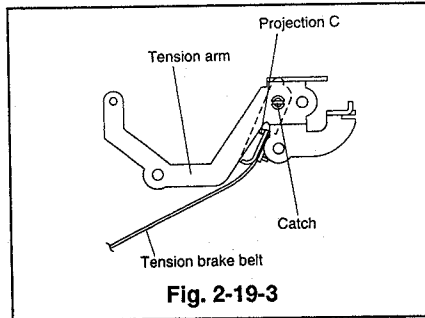
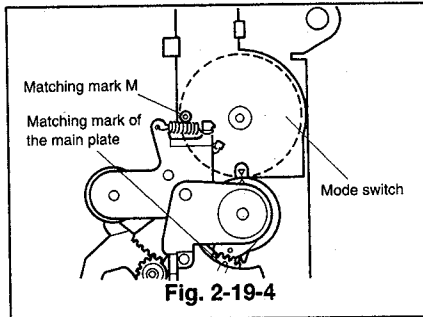
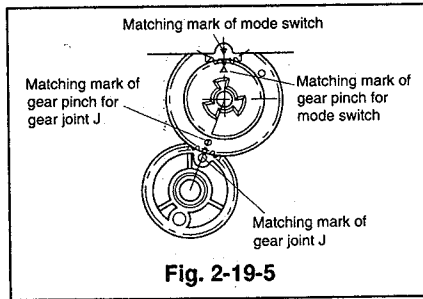
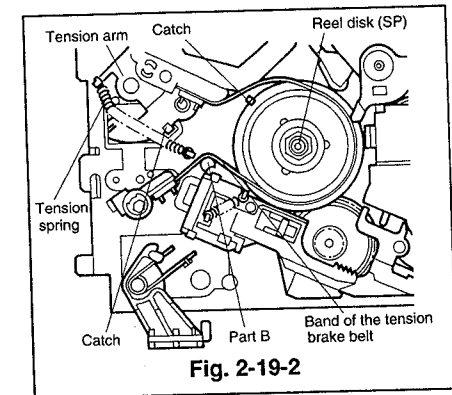

Fig. 2-19-3
Fig. 2-19-4
Fig. 2-19-5
Fig. 2-19-2
- ① Insert the catch in the position of the tension arm as shown in Fig. 2-19-3 to fasten the tension brake belt on the tension arm. (Take care not to let projection C, next to the catch of the tension brake belt touch the tension arm.)
- ② Install the tension arm, where the tension brake belt is fastened, on the main plate.
- ③ Fasten the tension brake belt around the supply reel disk. (The band of the tension brake belt must pass the outside of the catch shown in Fig. 2-19-2 and inside of the part B.)
- ④ Attach the tension spring.
- ⑤ Install the sub brake(SP) and sub spring(SP). (Refer to Para. 2-14 for the installation method.)
- ⑥ Supply voltage(approximately 5V), reversing the polarity used in ② of the Removal method, to set the motor to the unloaded position.
- ⑦ Make sure that the holes (matching mark M) on the body and cogwheel of the mode switch align with each other as shown in Fig. 2-19-4. At the same time confirm that the hole of the gear pinch aligns with the matching marks of the gear joint J and the ▽mark on the mode switch cogwheel, refer to Fig. 2-19-5. This indicates the J deck is in the EJECT mode.
- ⑧ If the deck is not completely set to the eject mode, turn part D of the pulley worm J by hand to set the eject mode.
- 5 Remove the tension spring, unfasten the catch shown in Fig. 2-19-2, and raise the tension arm upward to remove it.
- 6 Reverse the tension arm, unfasten the catch with a tweezers as shown in Fig. 2-19-3 to remove the tension brake belt.